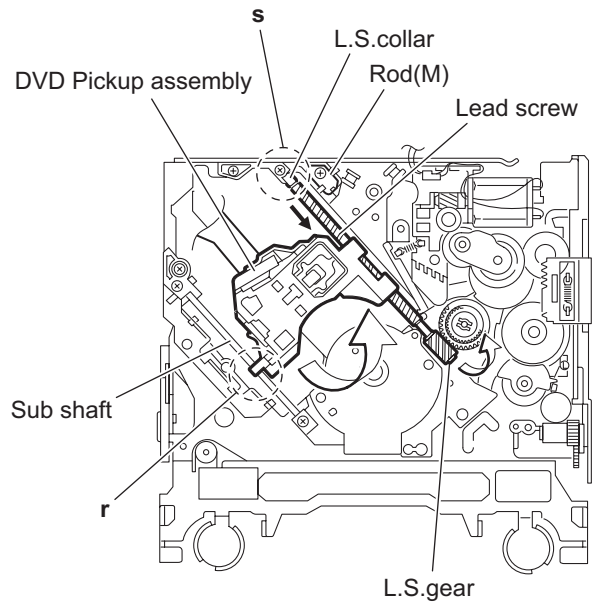

Fig.18
- (3) Remove the DVD pickup assembly upward on the L.S.gear side and release from sub shaft at joint **r**. Move the lead screw of the DVD pickup assembly in the direction of the arrow to release from joint **s**. (See Fig.18.)
- When releasing the lead screw at joint **s**, the L.S.collar comes off at the end of the lead screw. When reassembling, reattach the L.S.collar to the lead screw and engage joint **s**. (See Fig.18.)
- When reattaching the L.S.collar, reattach it to the point **s** of the lead screw, and to the rod (M). Make sure that the L.S.collar is set on the rod (M) spring. (See Fig.18.)